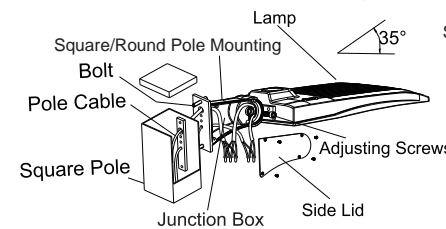

Figure 11
Step 1: Fix the mounting to the pole with bolt, open the side lid of the mounting, pull the wire into junction box, and connect the wire correctly. (Figure 11)
Notice: Adjustable angle is 0-35° (Figure 11).